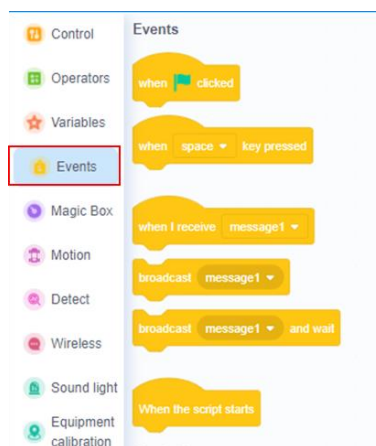

Figure 4.21 Event block
- The program written with blocks requires triggering conditions to run. Therefore, you need to select a command from the event block as the triggering condition, as shown in Figure 4.21. For example,  means the program starts to run once you click .